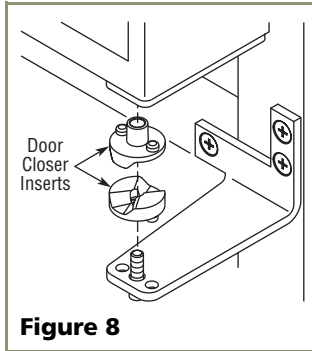

Figure 8
- Remove the two door closer inserts from the existing bottom hinge and install as shown on the new bottom hinge (see **Figure 8**).